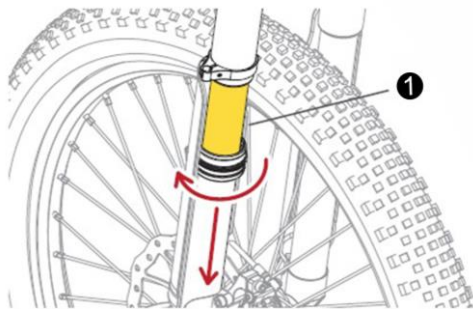

Fig 9
- dismount protective cover. (see Fig 9)